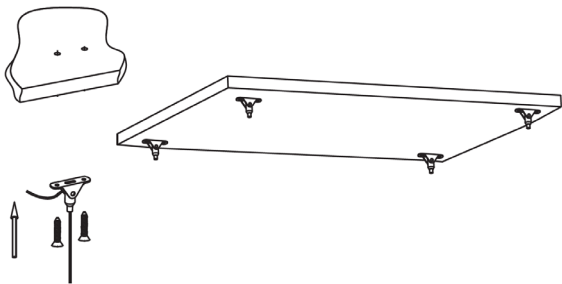

Fig. 3
- Using the anchors of the suspension kit (LPANS, sold separately) as a template, mark the location for, and drill the fixing holes ensuring not to infringe with any gas/water pipes or electrical cables. Fix the anchors to the ceiling (see Fig.3)